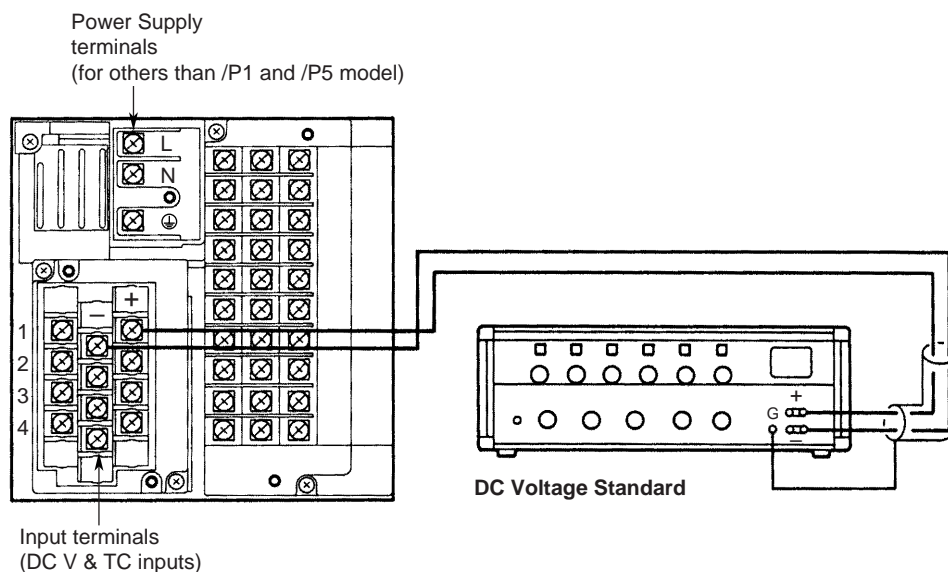

Figure 11.3 DC Voltage Measurement
- 1 Connect the calibration instrument to the input terminals of the recorder as shown in figures 11.3, 4, 5 or 6 and allow the recorder to warm up for at least 30 minutes. Allow the instrument to warm up according to its specifications.